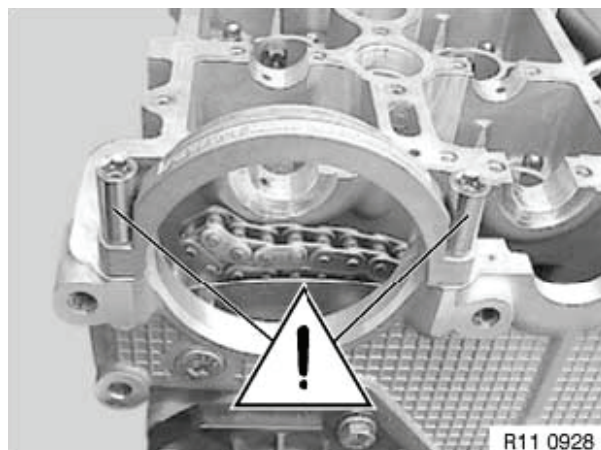

Figure 5-100
22. Do not remove loop casting bolts. **NOTICE:** NEVER remove bolts retaining loop casting (**Figure 5-100**).